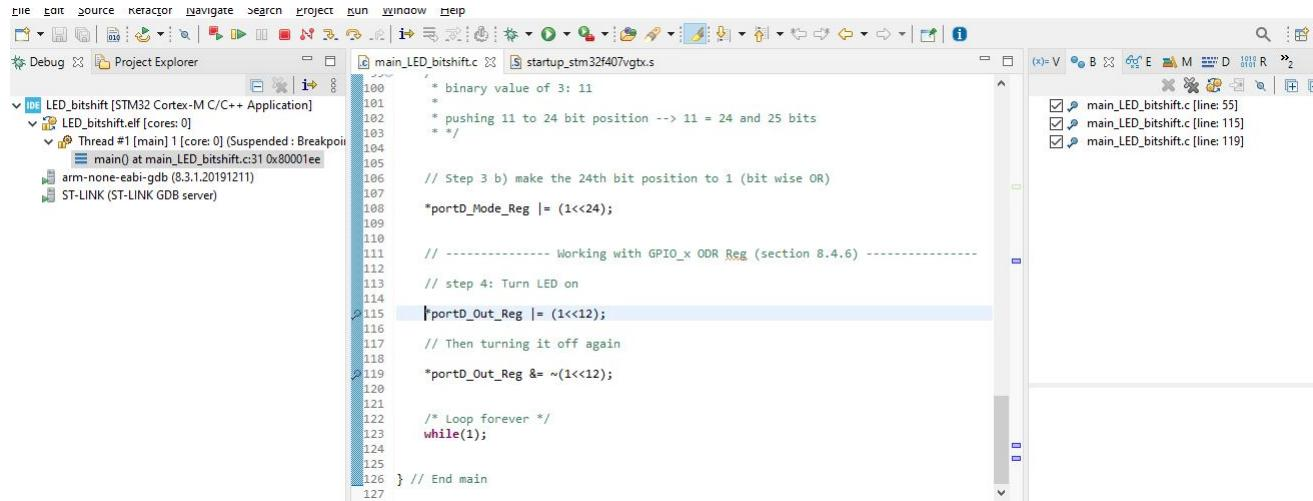

Figure 5.9: Setting a Breakpoint by Double-Clicking the Blue Bar Strip
- Double-click the blue strip as shown in Figure 5.9.